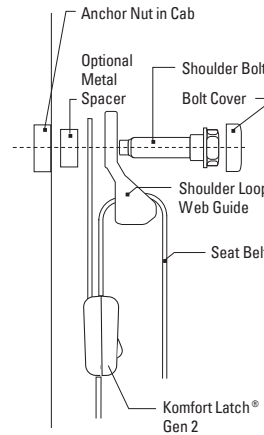

Fig. 1
2. Assemble hardware as shown in **Fig.1**. Some applications require an optional metal spacer to move the Komfort Latch and shoulder loop away from the vehicle cab trim. This metal spacer should only be used when specified by the vehicle manufacturer.